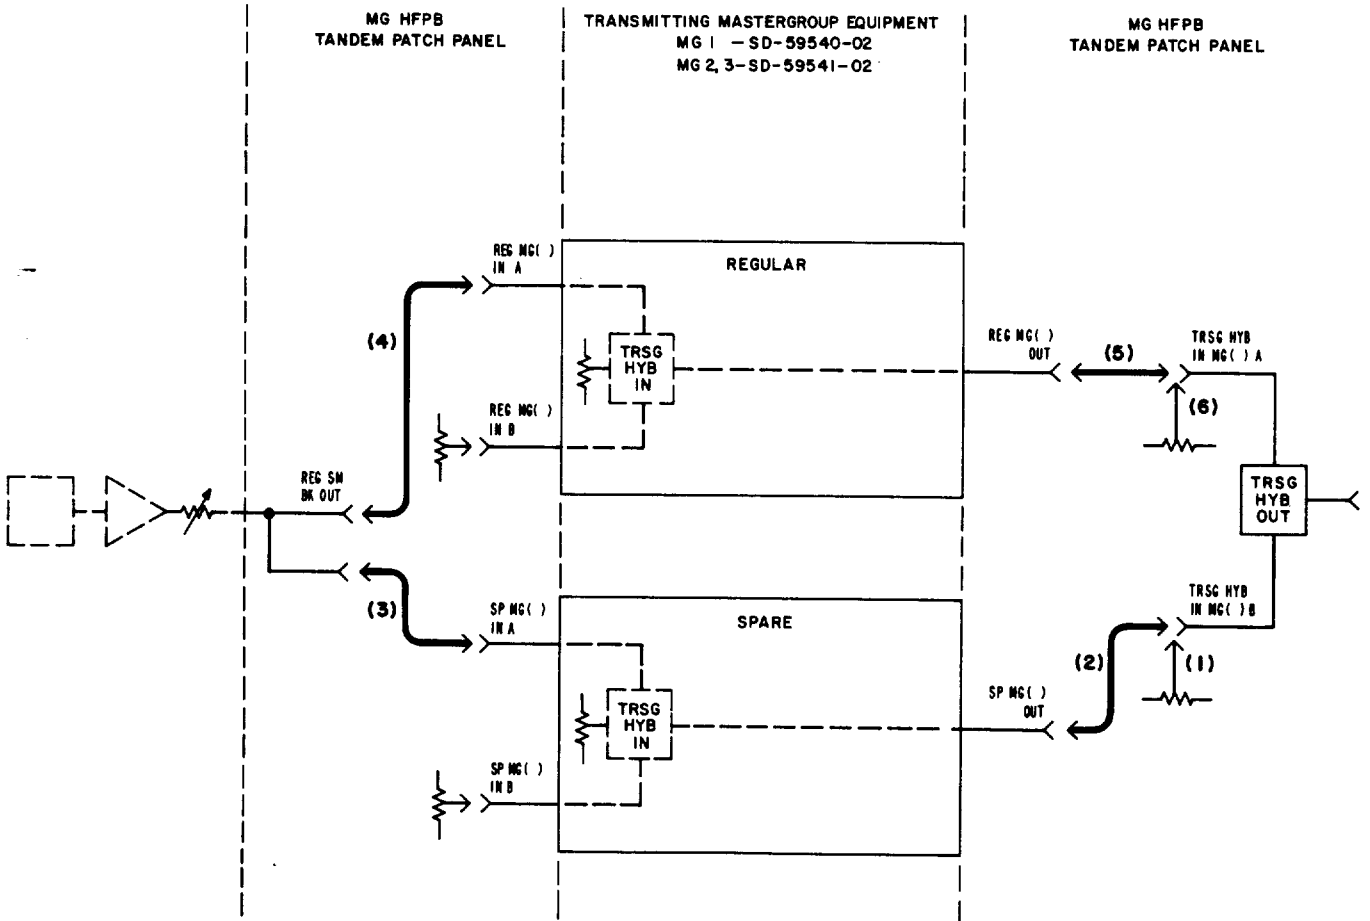

Fig. 3—Removing Regular Equipment From Service—Patching Procedure
| 7 | <p>At the transmitting patch panel (MG-HFPB), perform the following steps:</p> <p>(a) Remove the 358B (75-ohm termination) from the TRSG HYB IN MG() B jack [patch (1), Fig. 3].</p> <p>Note: Jack designations may vary between offices. The new designations (Table A) are used in this procedure.</p> |
| | <div style="text-align: center;">  <p>Fig. 2—Transmitting Patch Jacks (MG-HFPB)</p> <p>(b) Insert a 372A plug (through connection) into the TRSG HYB IN MG() B and SP MG() OUT jacks [patch (2), Fig. 3].</p> <p>(c) Insert a 372A plug into the SP MG() IN A and multiple REG SM BK OUT jacks [patch (3), Fig. 3].</p> </div> |
| | (a) Remove the 372A plug from the REG MG() IN A and multiple REG SM BK OUT jacks [patch (4), Fig. 3]. |
| | (c) Remove the 372A plug from the TRSG HYB IN MG() A and REG MG() OUT jacks [patch (5), Fig. 3]. |
| | (d) Insert a 358B plug into the TRSG HYB IN MG() A jack [patch (6), Fig. 3]. |